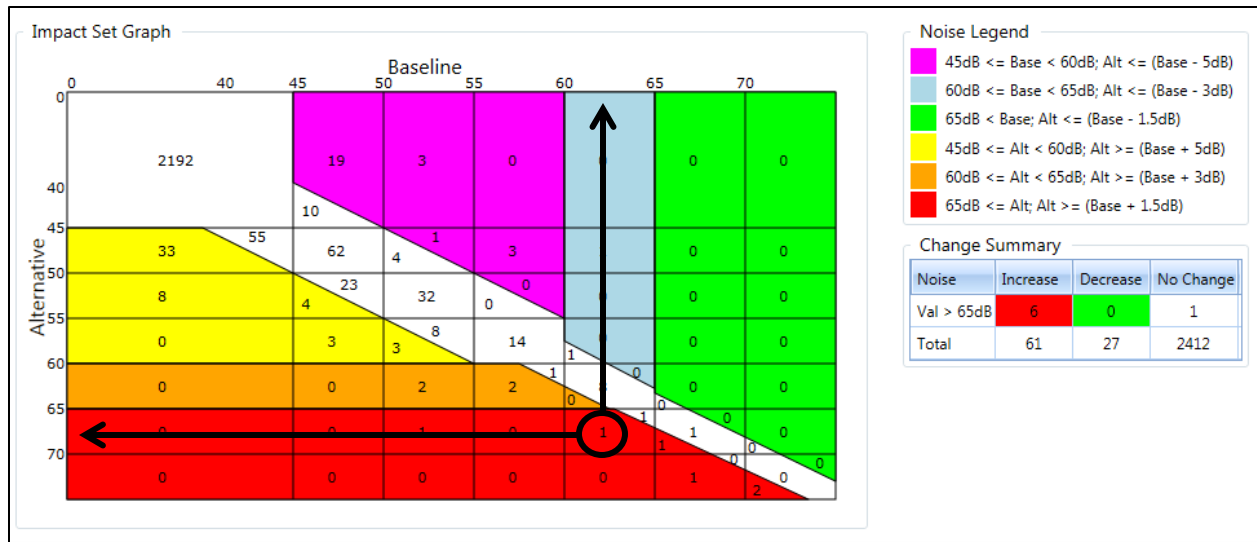

Figure 5-30 Sample Impact Set Graph
2. The color coding of warm (red, orange, and yellow) and cool (purple, blue, and green) colors allows easy reference when there has been a reduction or an increase in noise (Figure 5-30).
3. Example (Figure 5-30):